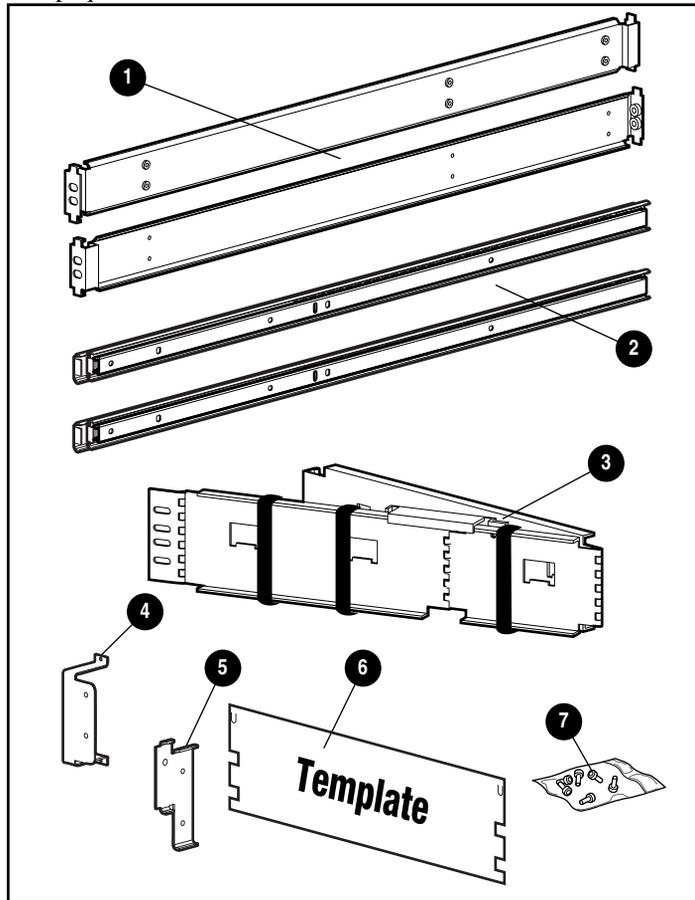

Figure 2-2. Rack mounting hardware
- Rack mounting hardware (numbers reference Figure 2-2)
- ① Rack Mounting Brackets (2)
- ② Slide Rail Assembly (2)
- ③ Cable Management Arm
- ④ Cable Management Arm Server Bracket
- ⑤ Cable Management Arm Rack Bracket
- ⑥ Template that can be used to mark the rack for proper attachment of the rack mounting brackets
- ⑦ Bag of screws